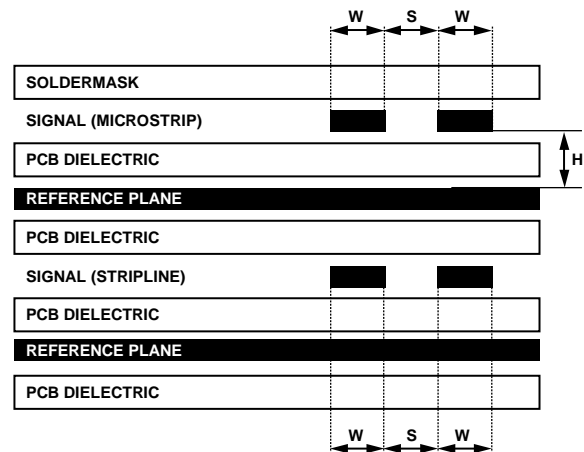

Figure 75. Example of a PCB Cross-Section
Route the high speed differential inputs and outputs with  $100\ \Omega$  controlled impedance differential transmission lines. Reference the transmission lines, either microstrip or stripline, to a solid low impedance reference plane. An example of a PCB cross-section is shown in Figure 75. The trace width (W), differential spacing (S), height above reference plane (H), and dielectric constant of the PCB material determine the characteristic impedance. To minimize crosstalk, keep adjacent channels apart by a distance that is greater than three trace widths (3W).